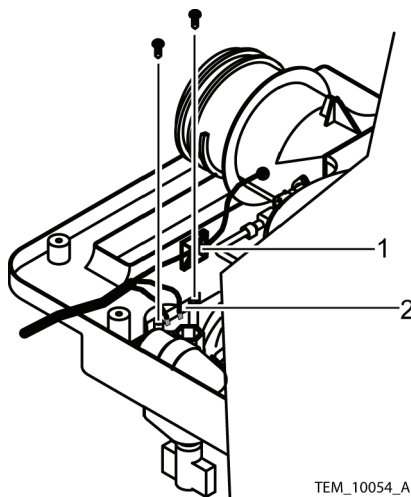

Figure 76. Thermistor Cable Installation
36. Attach the cable tie around the thermistor cable. See Figure 76, item 1.
37. Install the thermistor cable terminal board. Tighten the screw to 4 to 6 in/lbs (10 to 15 cm/kg). See Figure 76, item 2.